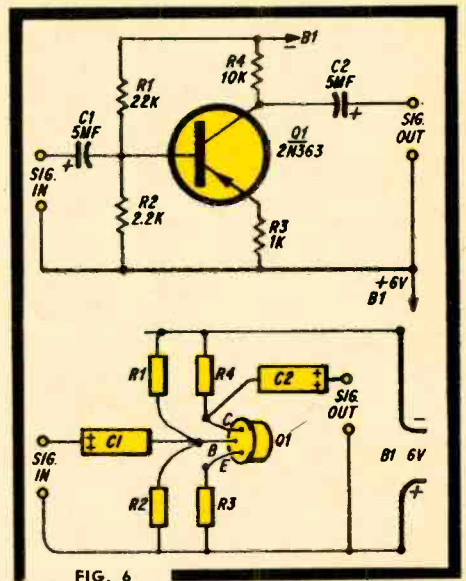
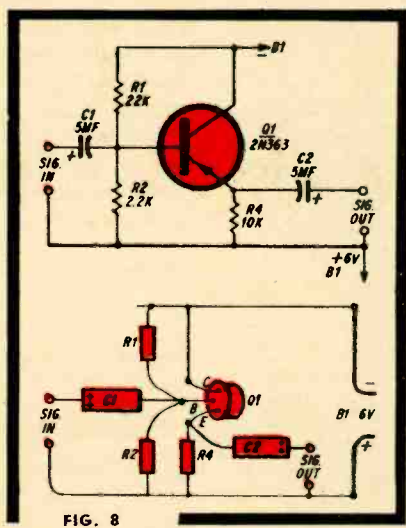
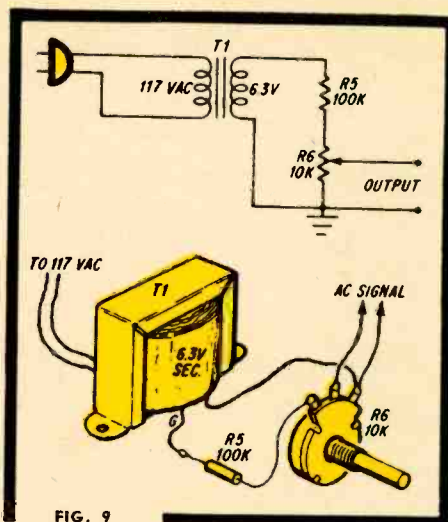

FIG. 6
FIG. 8
FIG. 9
common-base (CB), common-emitter (CE) and common-collector (CC) types are shown in Fig. 5. A standard CE amplifier using a PNP transistor is shown in Fig. 6. (NOTE: all resistors shown are 1/2-watt, 10% except R8, which is 2 watts. All capacitors are electrolytic, 10 volts or higher rating.) The input signal is applied to the base and the output is obtained at the collector. In the equivalent vacuum-tube amplifier the input signal is fed to the grid and the output obtained at the plate.
Note that unlike our previous theoretical example, in the practical circuit of Fig. 6 a single battery (B1) supplies bias voltage to both the base and collector. At the input, the base connects into the voltage divider formed by R1 and R2 across battery B1. This places a bias voltage on the base (with reference to the emitter) of about 1/10 the battery voltage.
It is also necessary to provide a negative voltage (reverse bias) between collector and base. This is accomplished in Fig. 6 by connecting one end of resistor R4 to the negative terminal of the battery.
The standard common-emitter, like the standard amplifier tube circuit, reverses the phase of any signal passing through it. We can demonstrate this in a simple experiment using the circuit of Fig. 6. Connect a volt-meter or VOM set for a low DC voltage range with its negative lead to the collector and its positive to ground (B1+). The meter will read between 2 and 4 volts.
Now let's check the common-collector circuit of Fig. 8. Since the CC is the transistor analog of the vacuum-tube cathode-follower, it is frequently referred to as the emitter-follower. Like the CE amplifier in Fig. 6, the input signal is applied to the base. However, the collector doesn't feed a load resistor. It is connected directly to the battery. Signal output is obtained
We can check the phase shift from input to output in the following way. With the circuit wired as shown in Fig. 8, place a voltmeter across R4 with the positive lead to ground (B1+). Less than 1 volt should be read.
**Voltage Gain.** For the experiments, we will use the transistor circuits of Figs. 6, 7 and 8. In each case, a small 6.3-volt filament transformer serves as the signal source, using the circuit shown in Fig. 9. The AC input signal is kept small in order not to overdrive the transistor. An oscilloscope will be used to view the transistor output.
The general procedure for each amplifier circuit is the same. We'll use the circuit of Fig. 6 and apply the AC signal voltage at the input of the stage. The oscilloscope is connected across